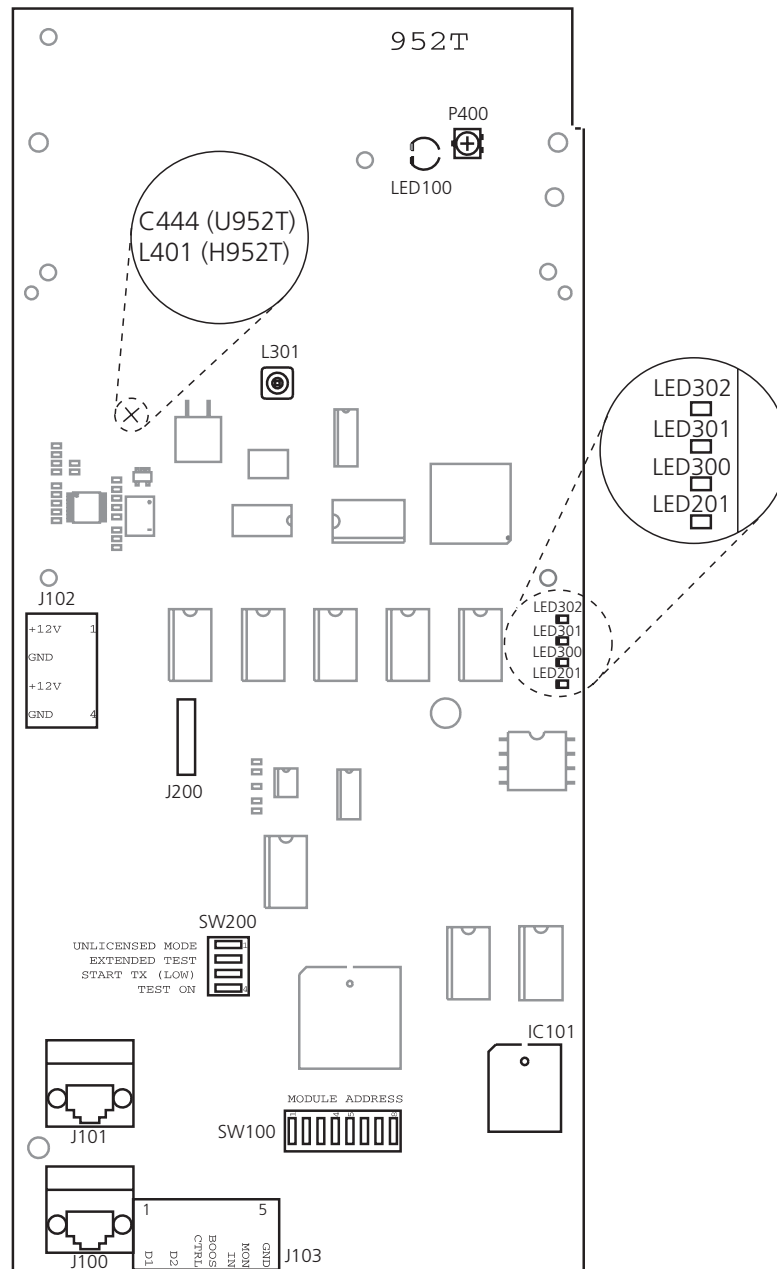

Figure 2. H/U952T Circuit board.
- Connect the modular bus cabling to connectors J100 and J101, see figure 2 on page 2.